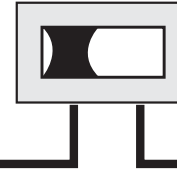

Figure 6.8: Control Dip Switch
- The dip switch is located under this panel and may be switched between “Advanced” and “Installer”. The dip switch is shown in Figure 6.8.